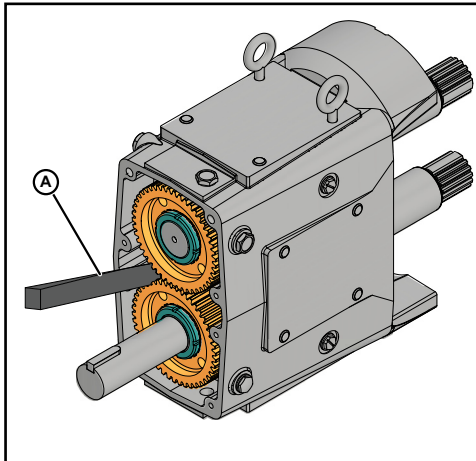

Figure 49 - Block Shaft Rotation
2. Prevent the shafts from turning by placing a wedge or soft dowel between the gears, as shown in Figure 49, (A).